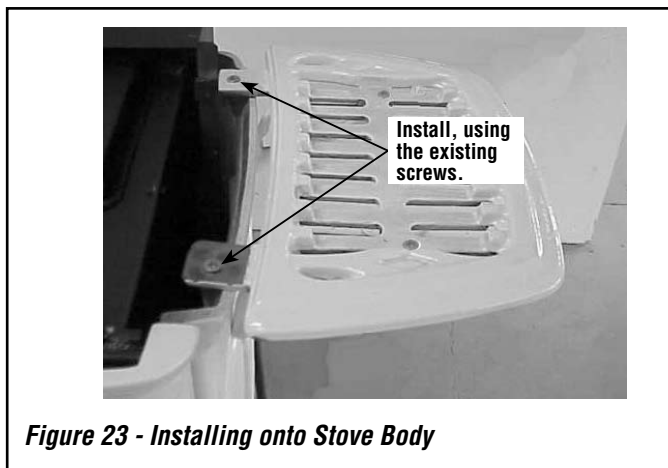

Figure 23 - Installing onto Stove Body
3. Using the existing screws on the stove body, install both warming shelf assemblies as shown in *Figure 23*. Tighten screws just enough to level shelves.